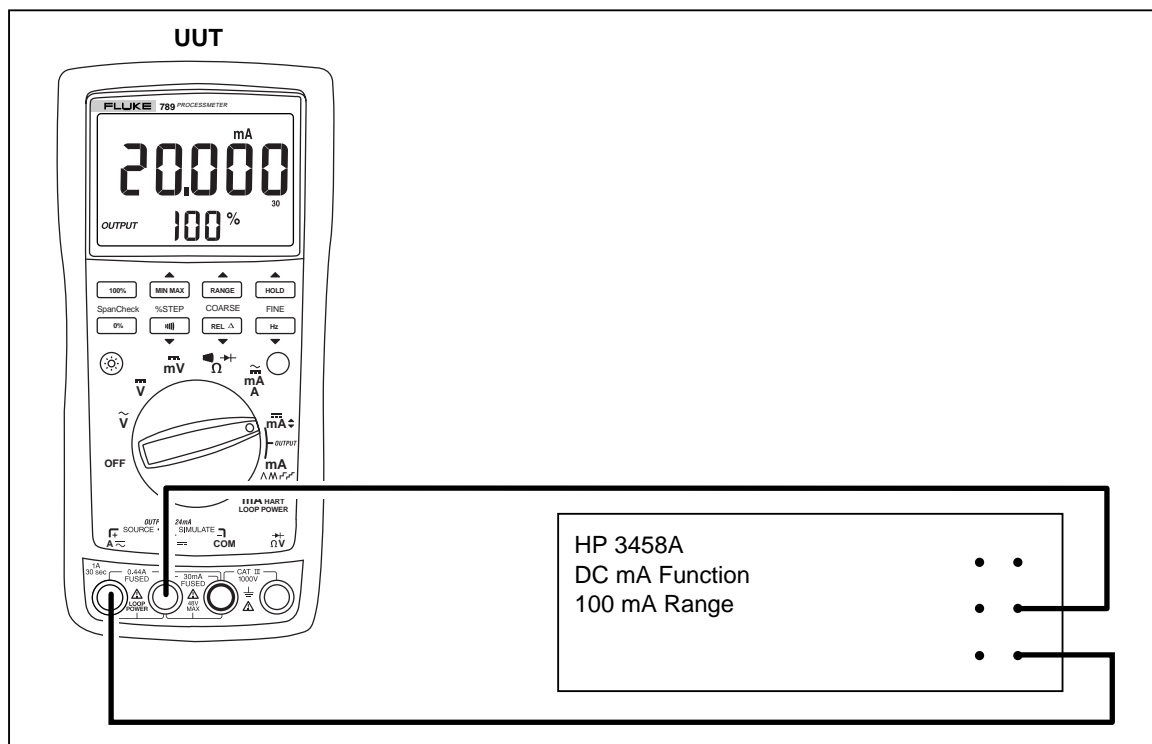

Figure 3. Current Sourcing Connections Using the HP 3458A
2. Connect the **SOURCE + (A \sim)** and **- (mA $\overline{\sim}$)** terminals on the UUT to the current terminals on the multimeter as shown in Figure 3.